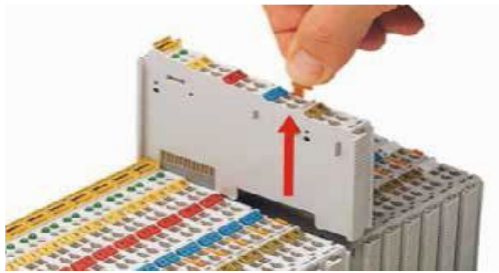

Fig. 6.2. Removing a Wago Module
1. On the Wago module assemblies to be replaced, tag all connecting cables (see Figure 6.2)
3. To release a Wago module from the DIN rail, pull the release tab on the module. The release tab is indicated by the red arrow shown in Figure 6.2.